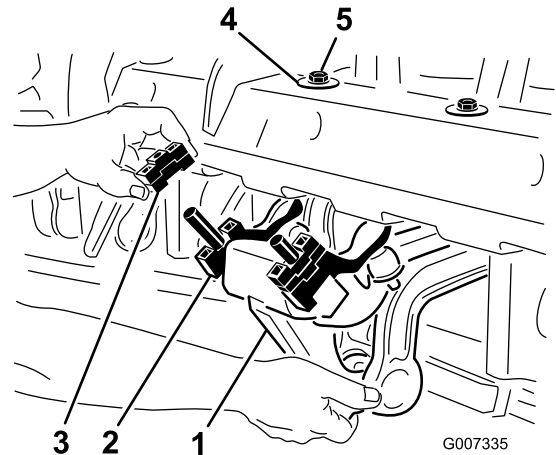

Figure 25
1. Remove the 2 locknuts (1/2 inch) securing the rotalink damper assembly to the underside of the coring head frame (Figure 25).
2. Lower the damper assembly to expose the spacers (Figure 25).
4. Assemble the damper assembly to the coring head frame again. Ensure that the D washer is installed against the coring head frame as shown in Figure 25. Secure the 2 locknuts.